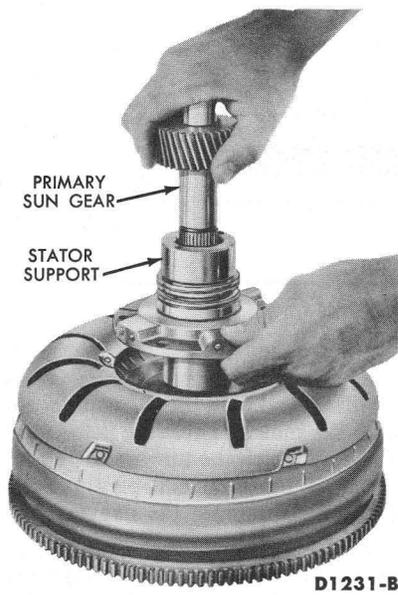

FIG. 5—Stator to Turbine Interference Check
3. Install the input shaft, engaging the splines with the turbine hub (Fig. 5).